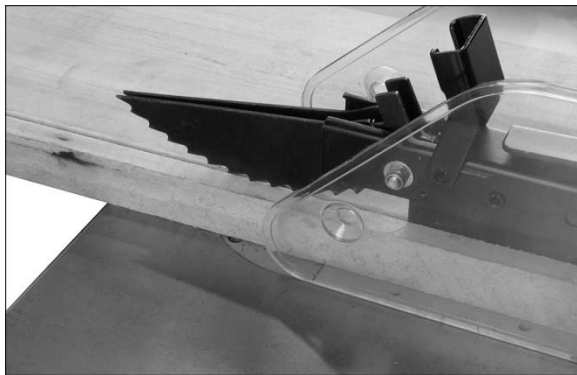

Figure 32
- ❑ As the machine receives use, the operation of the anti-kickback pawls should be checked periodically (Figure 32). If the pawls do not stop the reverse motion of a workpiece, sharpen all the points.